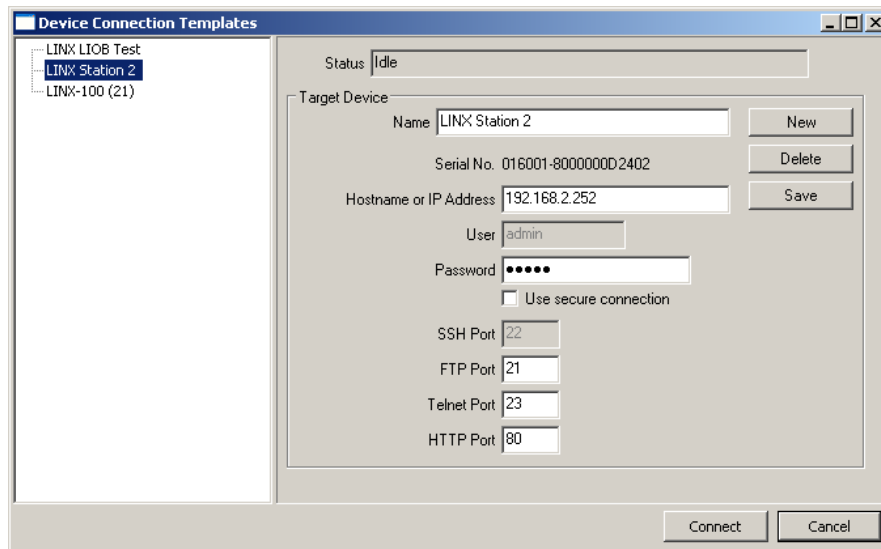

Figure 76: FTP connection dialog.
2. Select the menu: **Connection** → **Connect via FTP**. This opens the FTP connection dialog as shown in Figure 76.